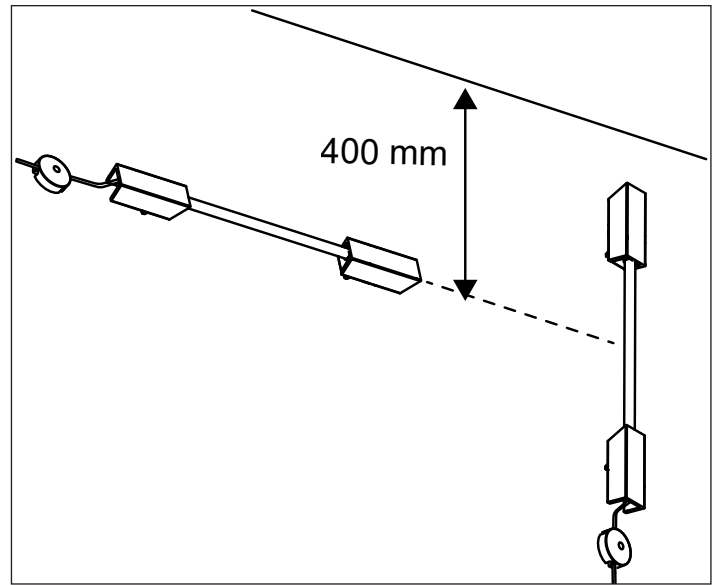
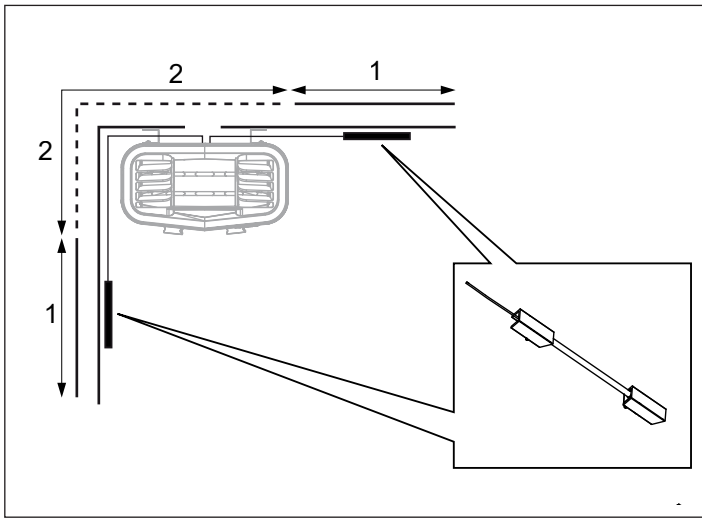
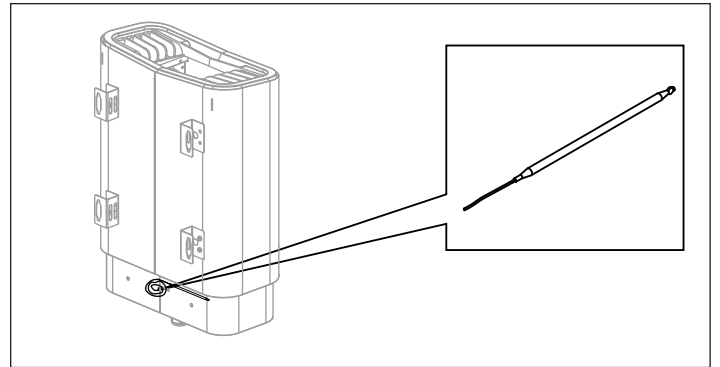
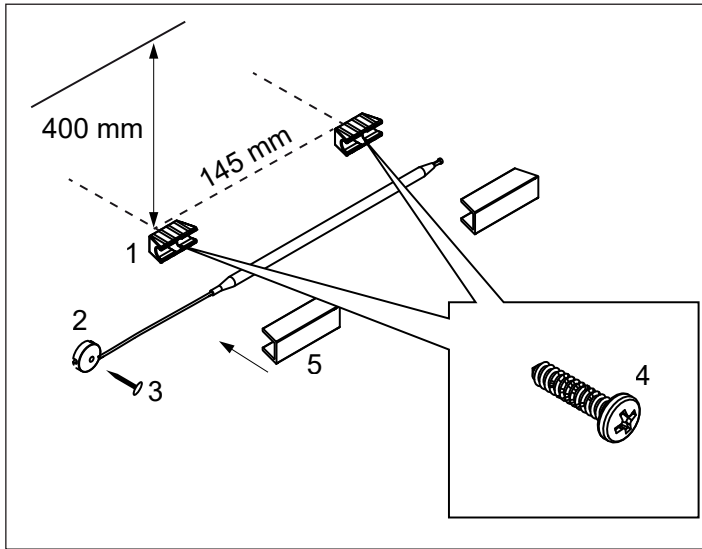

Figure 13: Temperature sensor placement
Figure 11: Positioning of temperature sensor
Figure 14: Finding the temperature sensor
Figure 12: Installing the temperature sensor
- 7. For positioning of temperature sensor holder on wall (see Figure 11). Choose position 1 if possible. Position 2 will reduce the sauna temperature. Install the temperature sensor holders (see (1) in Figure 12) 400 mm below the ceiling and 145 mm between using the two supplied screws (4).
Insert the temperature sensor (located on the back of the heater, see Figure 14) and secure the capillary tube with the clips (2) and the brad nail (3) (see Figure 12). The sensor could either be installed vertical or horizontal, (see figure 13)
Contact TylöHelo Customer Service before connecting to voltages or numbers of phases that are not listed in the wiring diagram (see Figure 14).